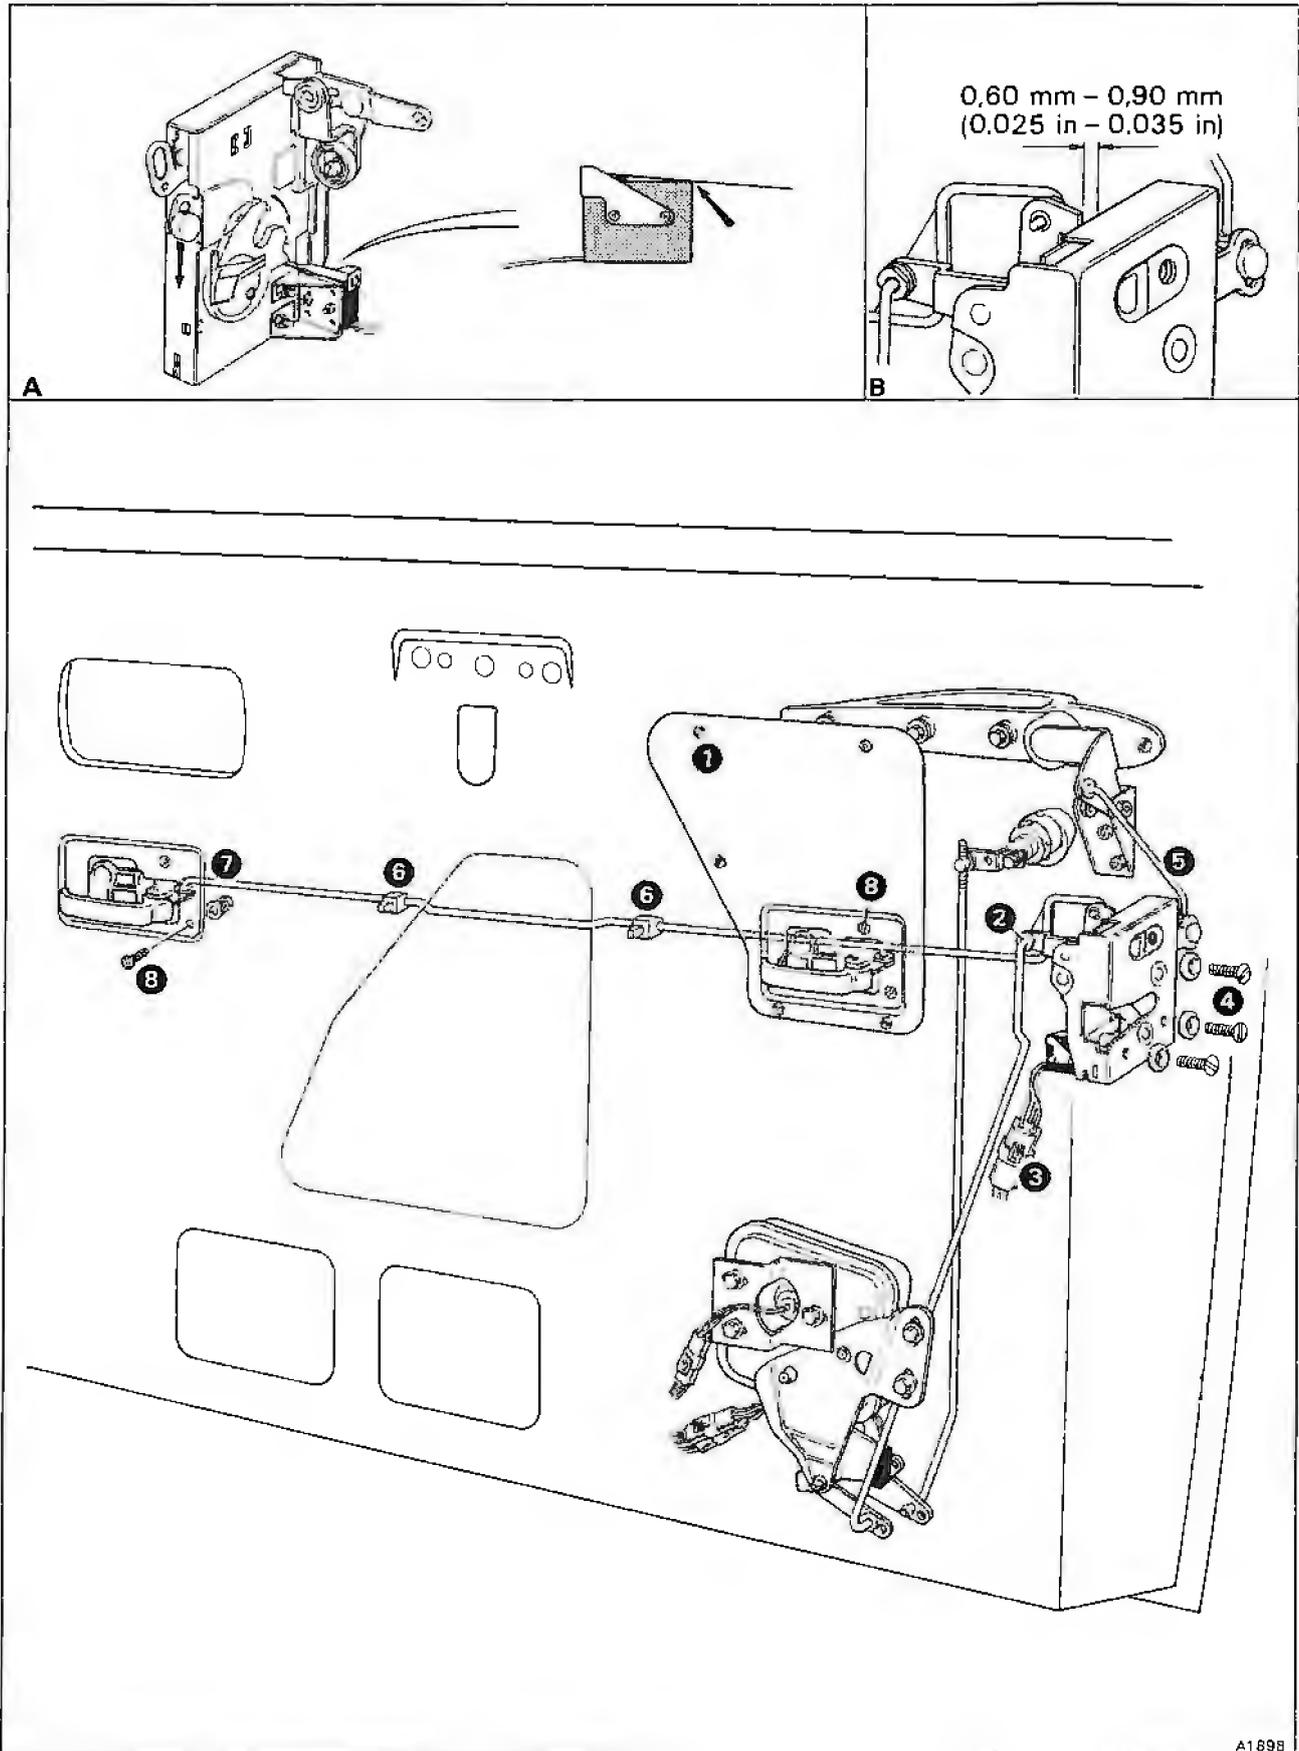

Fig. S20-3 Door latch, interior release handles, and fittings
3. Remove the five countersunk setscrews from the rearward interior door release handle mounting plate (see fig. S20-3, item 1). Lower the mounting plate assembly to disconnect the release handle from the control rod and remove.
5. Lower the door glass unit until the window lift to door glass mounting bracket (item 1) is visible through the large aperture in the inner door panel.
7. Disconnect the window lift motor plug and socket (item 2).
8. Carefully unhook the tensioning spring (item 3) from the lower door glass guidance slide and allow it to slowly retract. Extreme care must be taken to avoid contact with the very sharp edges of the spring during this operation.
9. Unscrew and remove both door glass guidance slides (item 4).
10. To facilitate assembly, mark the position of the door glass stop (item 5) in relation to the door glass unit. Then, unscrew and remove the stop.
11. Remove the two nuts and washers (item 6) securing the glass unit to the window lift mechanism. Support the glass unit, then withdraw the two setscrews and spacers. Carefully lift the glass unit out of the door.
12. Remove the two setscrews, plain washers, and rubber washers (item 7) securing the top of the window lift mechanism to the inner door panel.
13. Remove the two rubber grommets from the underside of the door. Release the exposed bolts, nuts, and washers (item 8), then manoeuvre the window lift mechanism through the large aperture in the inner door panel.
4. Remove the five countersunk setscrews from the rearward interior door release handle mounting plate (see fig. S20-3, item 1). Lower the mounting plate
Door latch – To remove (see fig. S20-3)
Door latch – To fit (see fig. S20-3)
(see fig. S20-3)
Interior door handles – To set (see fig. S20-3)
2. Remove the five countersunk setscrews from the rearward interior door release handle mounting plate (see fig. S20-3, item 1). Lower the mounting plate assembly to disconnect the release handle from the control rod and remove.
5. Disconnect the plugs and sockets (item 4) from the solenoids and micro-switches.
6. Disconnect the relay lever link rod (item 5) from the door latch.
7. Disconnect the private lock control rod (item 6) from the solenoid assembly.
8. Remove the three setscrews and washers (item 7) securing the solenoid assembly to the inner door panel. Then, carefully manoeuvre the assembly clear of the door.